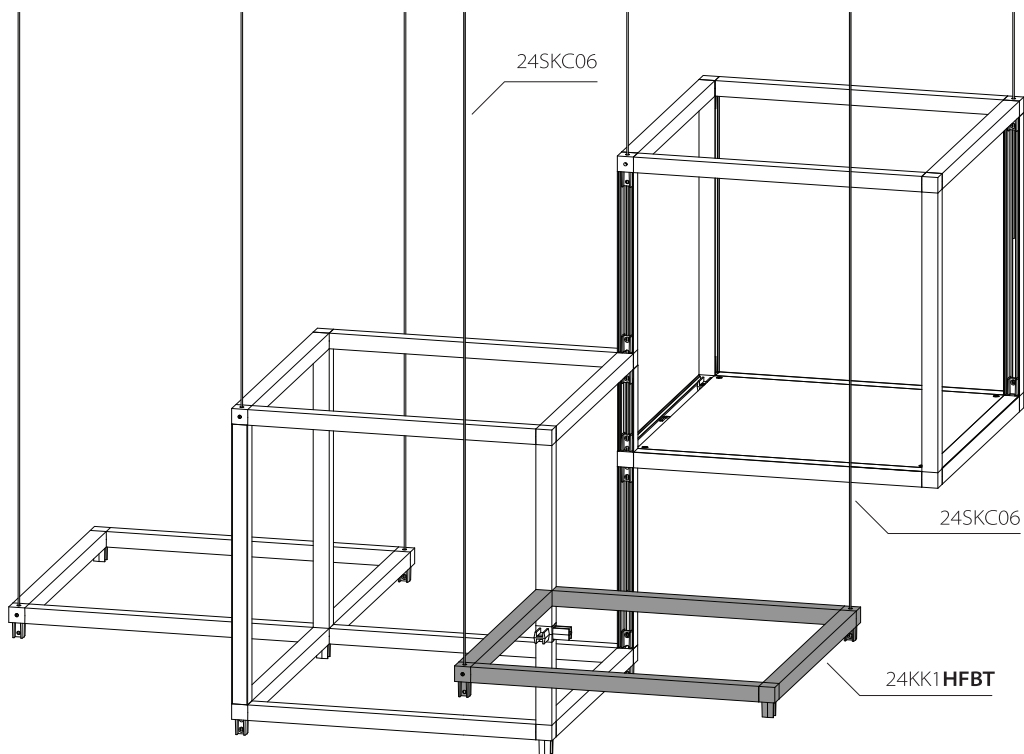

Fig. 7a
- 5a. Install 24KK1 **HFBT** to Arm Frame Connector as shown in Fig. 7a. Install 24SKC06 to hanging corner and tighten set screw with included Slotted Screwdriver.